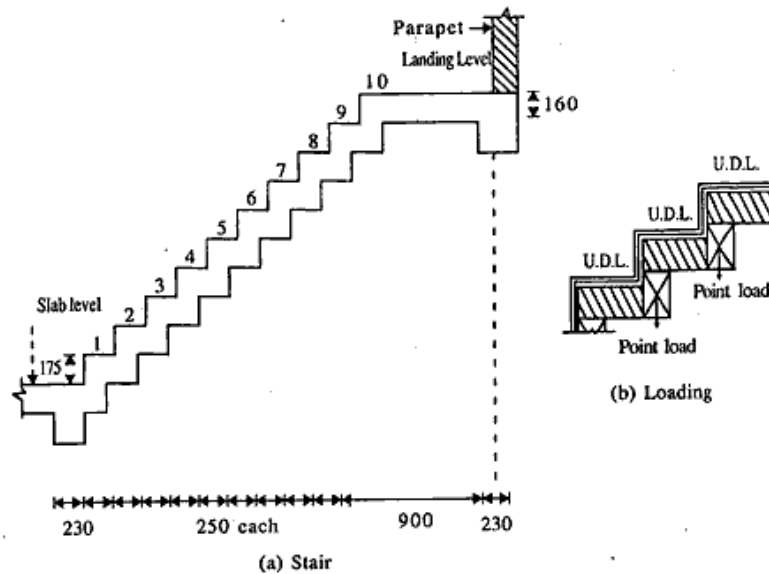

Figure 2
5. Design the tread-riser staircase of Figure 2 (All dimensions are in mm). The floor finish is 1 kN/m^2 and live load is 3 kN/m^2 . The width of stair is 1 m. It is not possible to span landing in transverse direction. The materials are M 20 grade concrete and HYSD reinforcement of grade Fe 415. 14